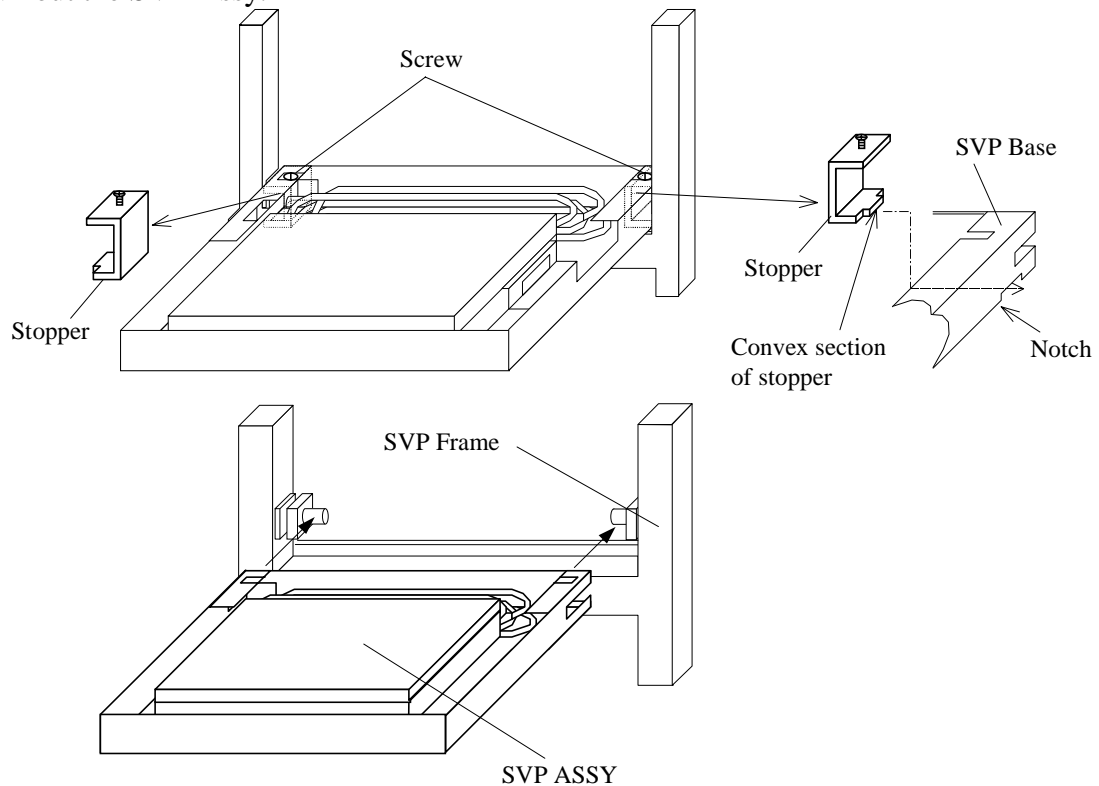

Fig. 4.9-11 Removing and installing the SVP ASSY
- a. Install the SVP to the SVP ASSY and attach the SVP stoppers with screws. (See Fig. 4.9-11.)